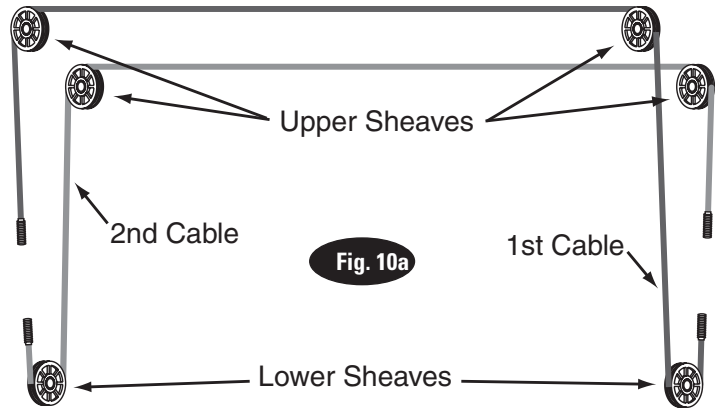

**Fig. 9a**
**10. Hoses:** Clean adapters and hose. Inspect all threads for damage and hose ends to be sure they are crimped, Fig. 8b. Install hose and hose clamps, Fig. 9a & Fig. 9d.
### Adapter & Hose Installation (see Fig. 9a)
**15. Oil Filling & Bleeding:** Use Dexron III ATF, or Hydraulic Fluid that meets ISO 32 specifications. Remove fill-breather cap, Fig. 8a. Pour in (8) quarts of fluid. Start unit, raise lift about 2 ft. Open cylinder bleeders approximately 2 turns, Fig. 9a.